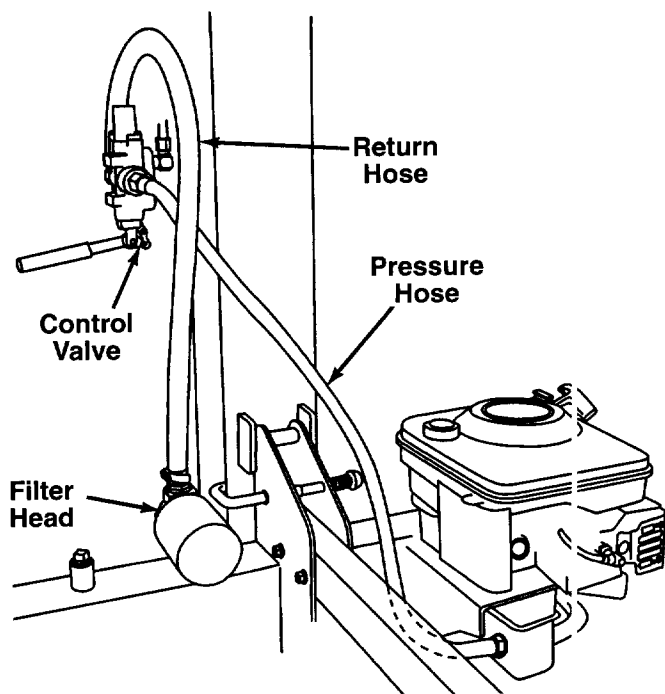

FIGURE 9.
2. Remove the plug from the loose end of the hose. Then remove the protective cap from the fitting on the top of the filter head. See figure 9.
The pressure hose is attached to the side of the pump. Route the hose as shown in figure 9. Secure the pressure hose to the bottom of the control valve.